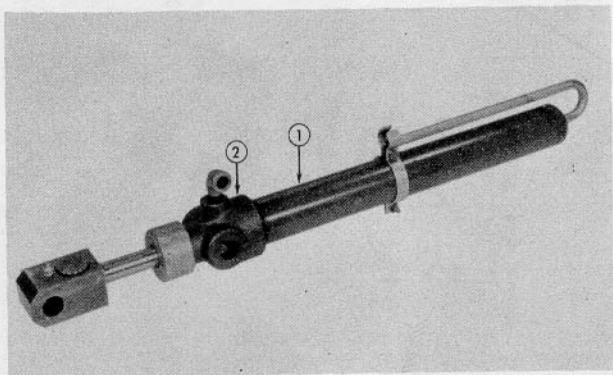

Fig. 14
Step 2—Unscrew cylinder (1—Fig. 14) from cylinder yoke (2), and remove yoke and piston shaft from cylinder.